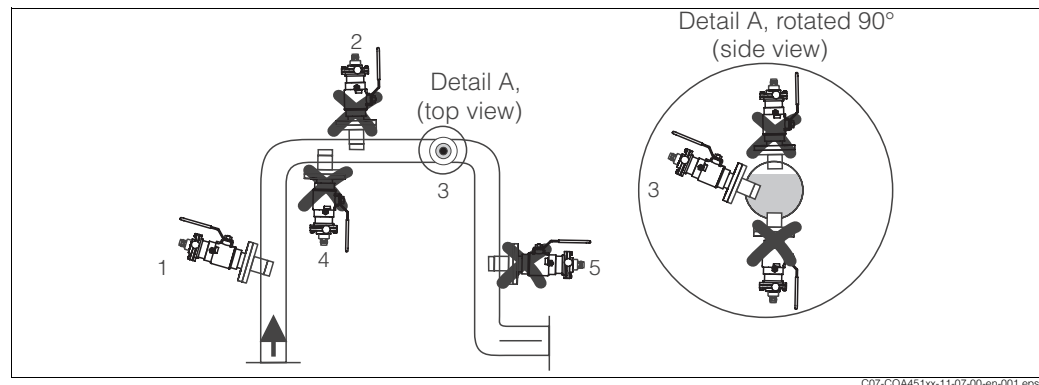

Fig. 5: Permissible and impermissible sensor installation positions
- Do not install the assembly at places, where air cushions or foam bubbles can be formed or where suspended particles can settle on the sensor optics (→ Fig. 5).